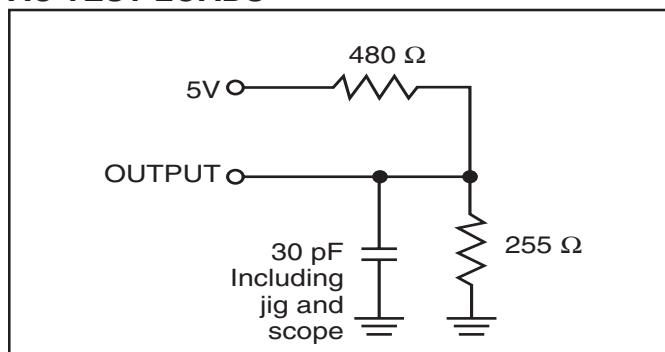

Figure 1
- Test conditions assume signal transition times of 5 ns or less, timing reference levels of 1.5V, input pulse levels of 0 to 3.0V and output loading specified in Figure 1.
Output Load	See Figures 1 and 2
1. Test conditions assume signal transition times of 3 ns or less, timing reference levels of 1.5V, input pulse levels of 0 to 3.0V and output loading specified in Figure 1.